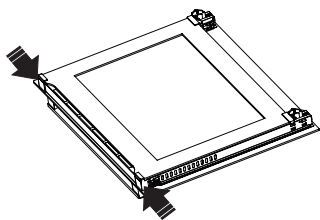
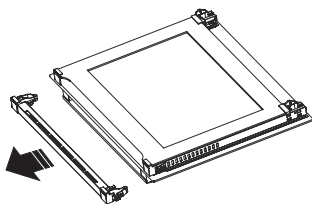
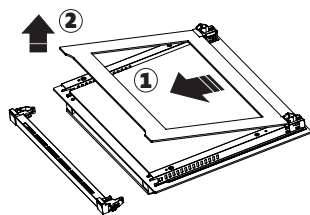

Figure 17
Figure 18
Figure 19
1. Press the plastic latches on the left and right side as shown in figure 17 and lift the profile by pulling it towards you as shown in figure 18. Glass is free after the profile is removed as shown in figure 19. Carefully pull the glass that has become free toward you. If necessary, the central glass can be removed in the same way. The outer glass is fixed to the oven door profile. You may easily clean the glasses after they have been separated. Once the cleaning and maintenance is complete, you may replace the glasses and the profile by performing the removal procedure in reverse. Make sure that the glass is inserted in the correct direction and that the profile fits properly.